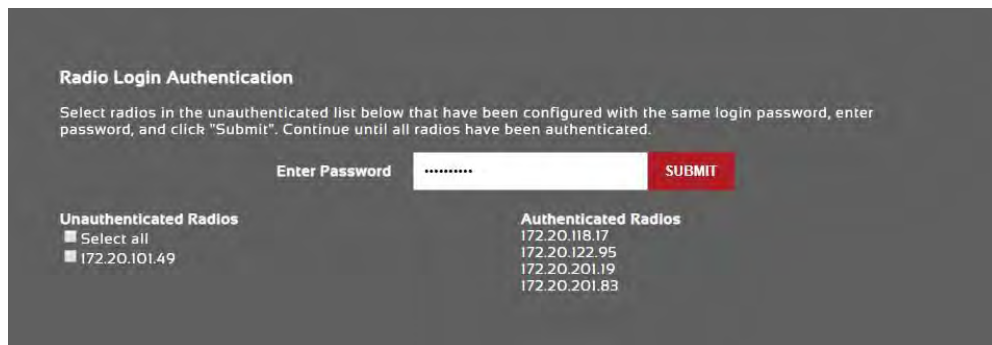

Figure 39 Radio Login Authentication during Network-wide Upgrade
- **RS-232:** The RS-232 mode provides a wireless serial connection between any two serial devices connected to StreamCaster radios on the network. In this mode, the user must configure the RS-232 protocol parameters shown in **Figure 39 Serial/USB Setup Page** above. The transport protocol for the serial data can be set as either TCP or UDP. For data that is sensitive to latency such as command and control data, UDP is recommended. For data that cannot tolerate any data loss, such as telemetry data, TCP is recommended.